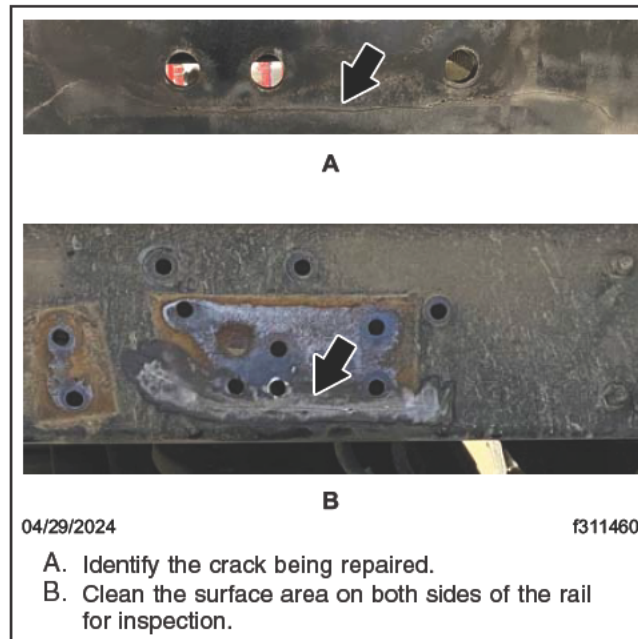

Fig. 17, Crack Inspection
2. Inspect the crack carefully to determine if it is repairable. See Fig. 17.